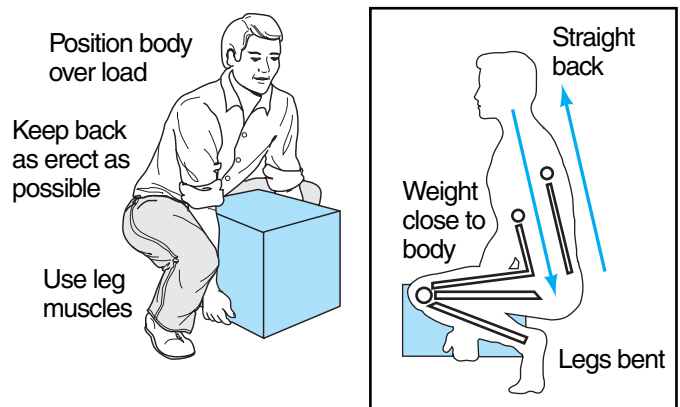

FIGURE 2.3 Lifting precautions.
- Bend your knees and lift with your legs, not your back (**Figure 2.3**). Also, keep your lower back straight when lifting. Think about thrusting your stomach out.